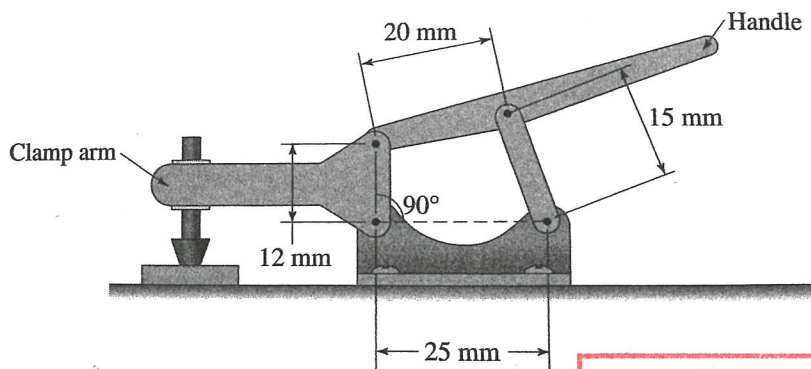

Figure Q6
- (c) **Figure Q6** shows a toggle clamp used for securing a work piece during a machining operation. Pin holes distance for handle arm is 20 mm, clamp arm is 12 mm, support base is 25 mm and connecting linkage is 15 mm. Determine the angle that handle must be displaced in order to lift the clamp arm  $30^\circ$  clockwise direction. (13 marks)